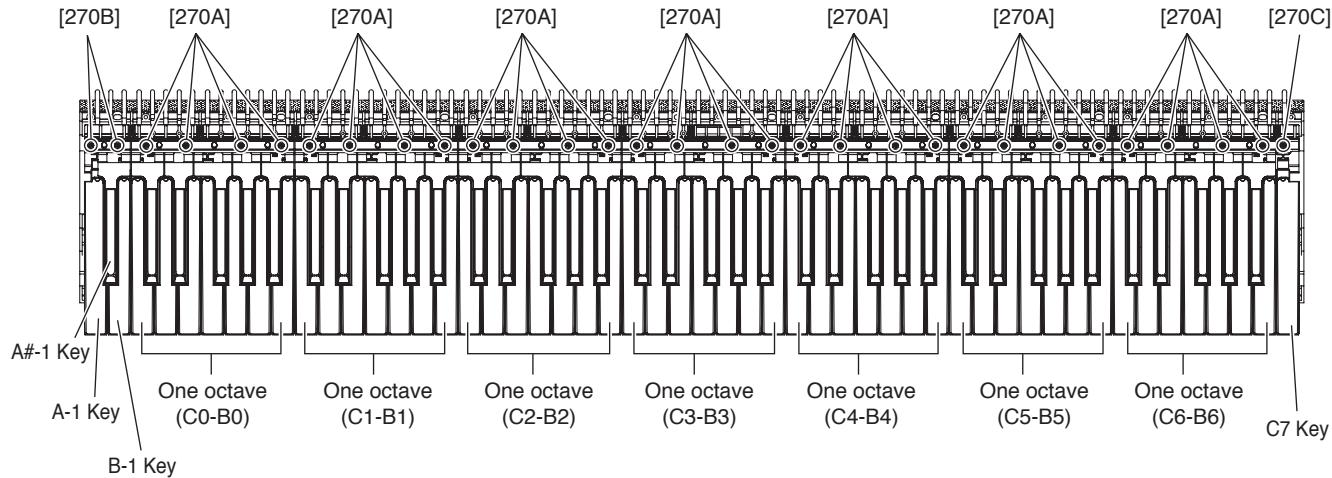

Fig.8
To remove the black and white key assemblies for one octave, grip and lift the both end lugs of white key, and then slide the black and white key assemblies towards you. (Fig.8, Fig.9)
7-2 When removing white keys numbered as A-1 and B-1 key and black key numbered as A#-1, remove two (2) screws marked [270B] and then lift the back of the keys and slide the black and white keys towards you. (Fig.8)
7-3 When removing the C7 key, remove a screw marked [270C] and then lift the back of C7 key and slide it towards you. (Fig.8)
Use the four (4) screws marked [270A] to fix 1 octave white key assembly/black key assembly. (Fig.8)
Use the two (2) screws marked [270B] to fix the A-1 to B-1 keys. (Fig.8)
8-9 Use a screw marked [270C] to fix the C7 key. (Fig.8)